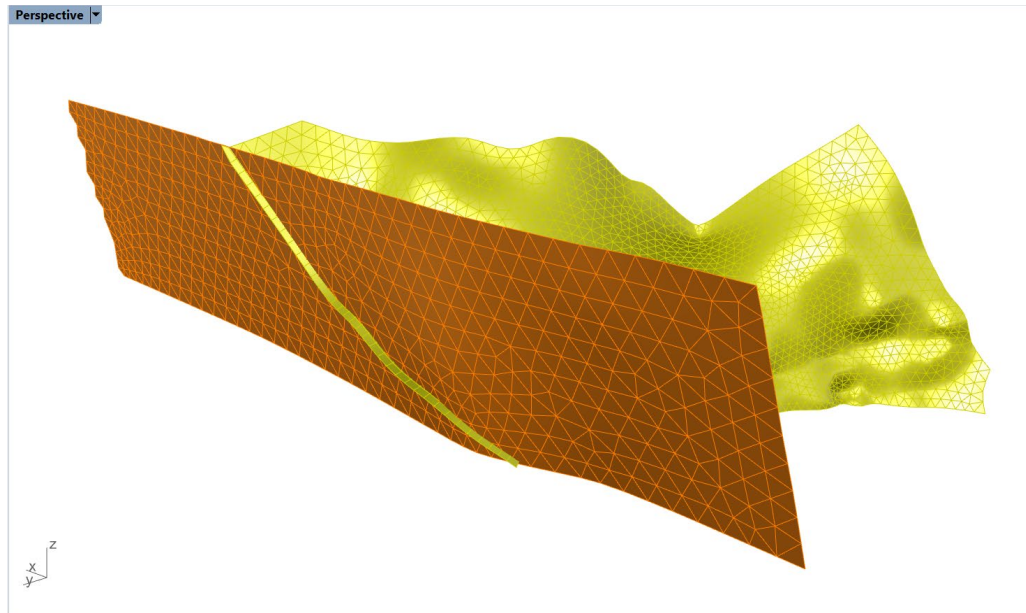

Figure 86: Extension of “Strat1” mesh along the part of the boundary closest to “Fault1”.
25. Turn on only “Strat1” and “Fault1” layers and extend the “Strat1” mesh only along the edge that visually connects to the “Fault1” mesh. Use **_GExtend** → *ExtendSelectedBoundary: ExtendLength = 20, MeshType = Merged*. Additional segments of the boundary can be included in the selection by clicking on them and can be removed when holding **Ctrl** and clicking. Ensure that the extended portion fully intersects and is enclosed within the “Fault1” mesh (as in Figure 86).